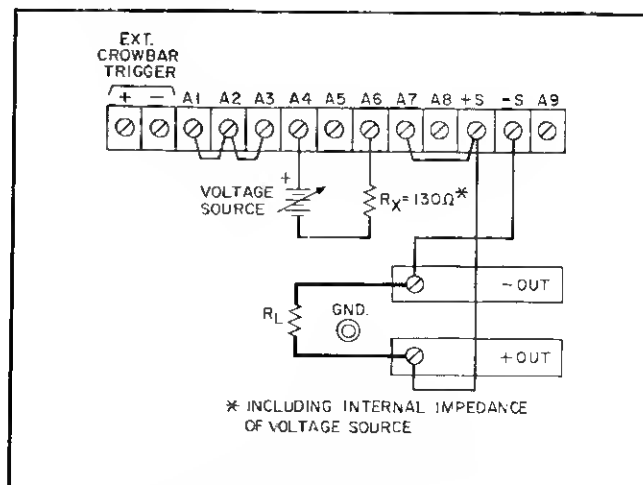

Figure 3-8. Voltage Programming of Output Current (Fixed Gain)
**3-47 Constant Current Output, Voltage Input (Fixed Gain).** The rear panel connections shown in Figure 3-8 allow the output current to be varied by using an external voltage source to program the supply. The constant-current programming coefficients for the supplies included in this manual are as follows ( $\pm 10\%$ ):